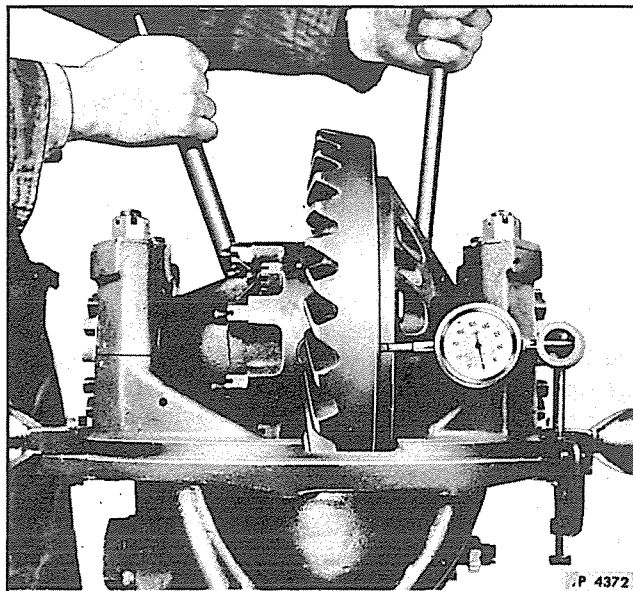

Figure 4—Differential Bearing Pre-Load Adjustment
1. Using dial indicator at back face of drive gear (8) as shown in figure 4, loosen bearing adjusting ring (41) on side opposite bearing enough to notice end play on dial indicator.
4. Tighten adjusting rings (10) one notch each from .000 end play position to impose correct pre-load on differential side bearings (12).
6. Install adjusting ring locks (3) and lock bolts (2), tighten bolts to 15-20 foot pounds torque, then install lock wires.